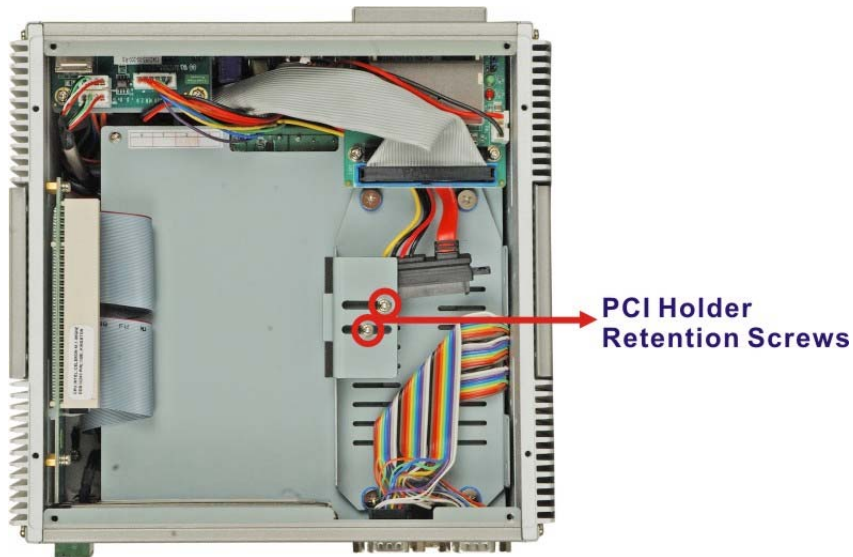

Figure 4-12: PCI Card Holder Retention Screws
Step 3: Remove the two PCI card holder retention screws (**Figure 4-12**) and remove the PCI card holder.